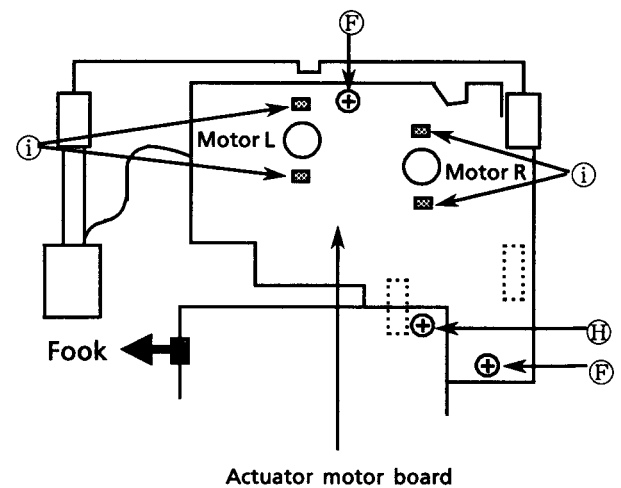

Fig. 32
1. Unsolder 4 soldered point ① for both motors. (See Fig. 32.)
2. Remove a screw ⑧ securing the CD servo board. (See Fig. 32.)
4. Remove 2 screws ⑥ securing the actuator motor board. (See Fig. 32.)